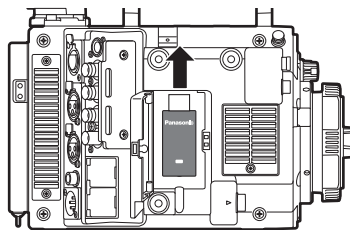

Fig. 3
- 3** Securely attach the wireless module to the <USB HOST> terminal (sub host). (Fig. 3)